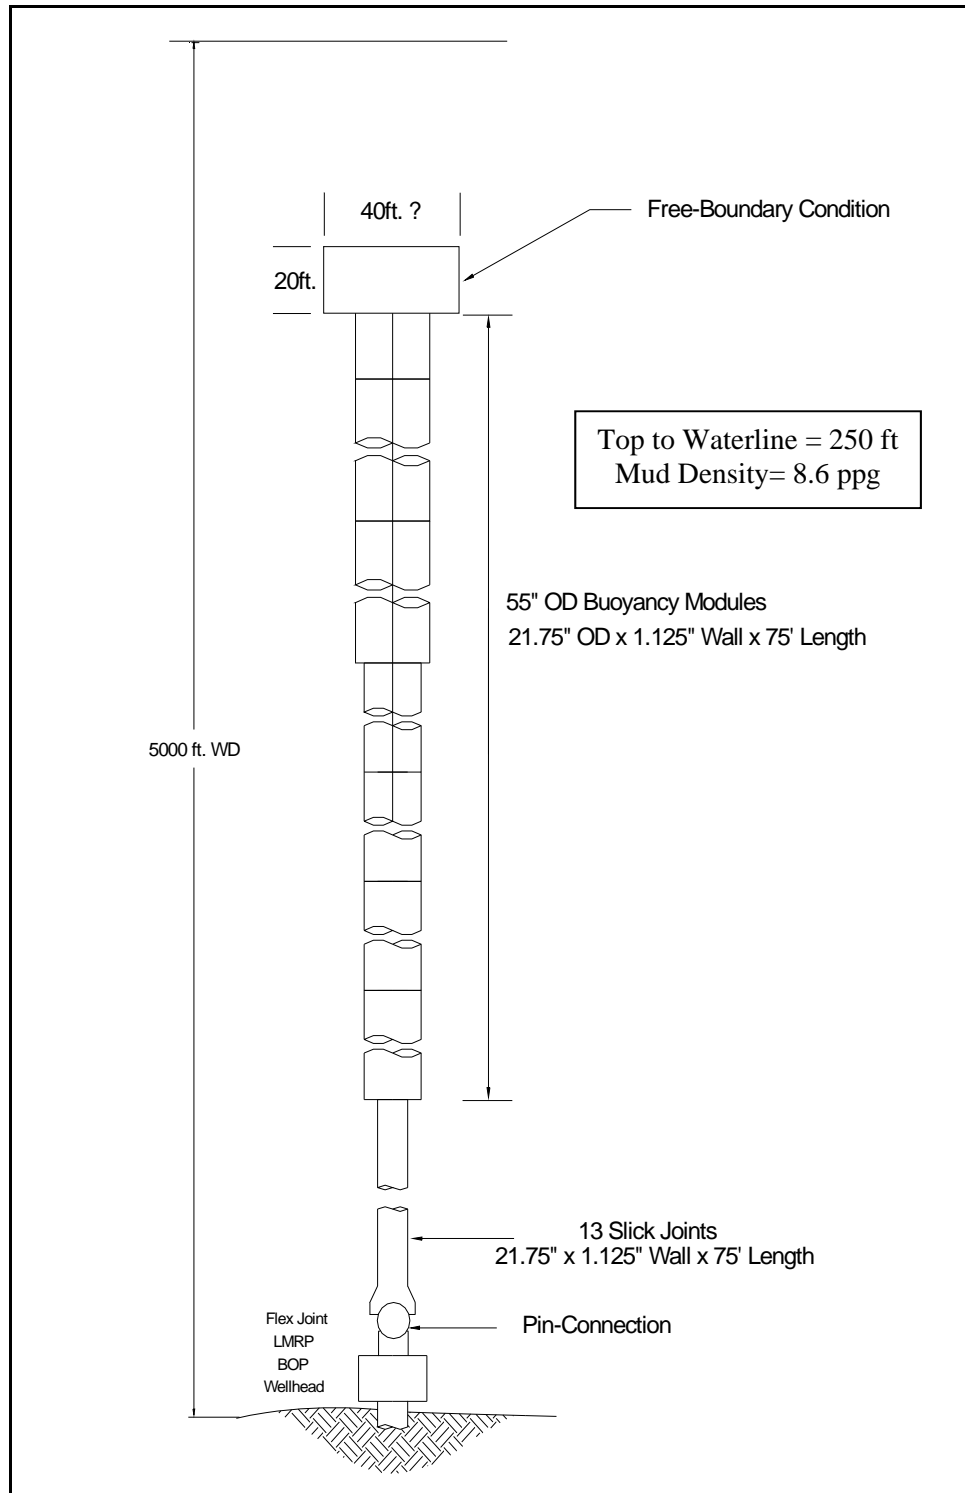

Figure 5.5 Example Problem 5:
- Example 5 is a 4750-ft free-standing riser in 5000 ft water depth with Brazil current (Figure 5.5).